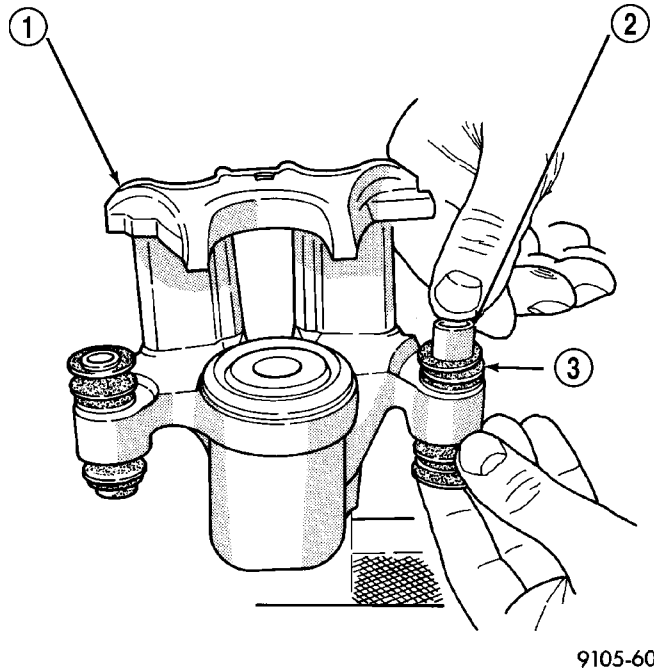

Fig. 52 Installing Sleeve In Bushing
(5) Install the guide pin sleeve into one end of bushing until the seal area of bushing is past the seal groove in the sleeve (Fig. 52).
(6) Holding the convoluted boot on the opposite end of the bushing, push the steel sleeve through the bushing until the bushing boot is fully seated into the seal groove on that end of sleeve (Fig. 52). Install the other end bushing boot into the groove on that end of the bushing sleeve.